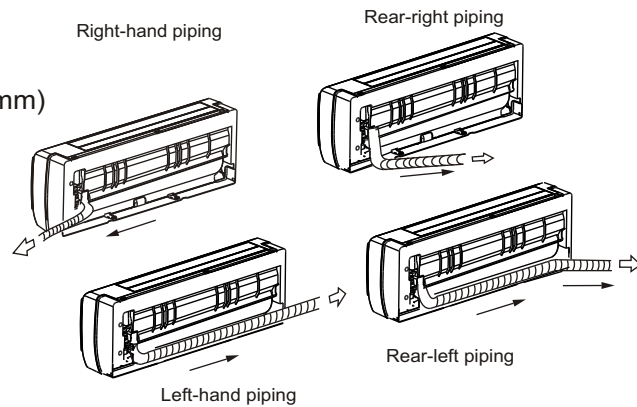

Fig.9
- For the rear-right-hand and rear-left-hand piping, install the piping as shown in Fig.9. Bend the connective pipe to be laid at 4in.(43mm) height or less from the wall.